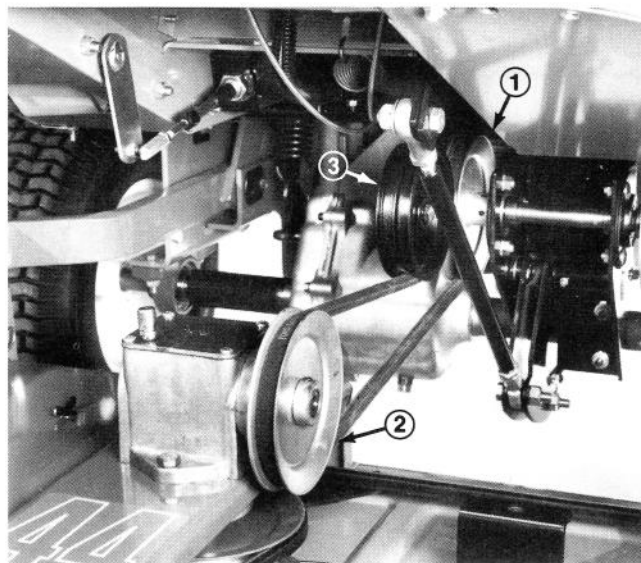

Figure 4
2. Route V-belt around jackshaft pulley and gear box pulley (Fig. 4).
3. Raise idler pulley and position over upper portion of belt (Fig. 4).